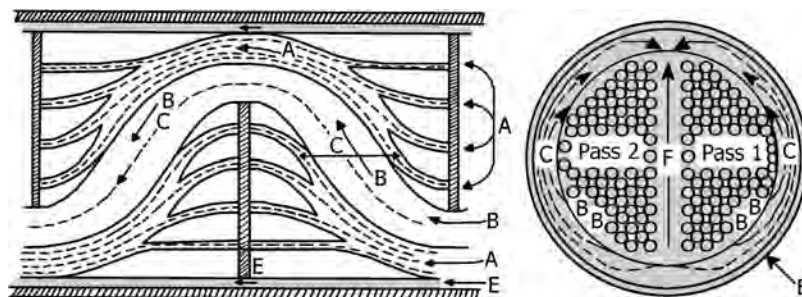

FIGURE 10.28 Leaking paths for flow bypassing the tube matrix. Both through baffle clearances between the tube matrix and the shell.
- Figure 10.28 illustrates different leakage streams in a baffled heat exchanger.